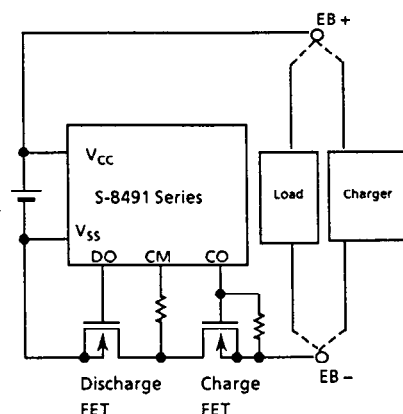

Figure 4
- Wiring resistance on the PCB between DO pin and FET1 gate: A resistor of 5 Ω or less (Refer to Figure 4, Battery Protection IC Diagram)